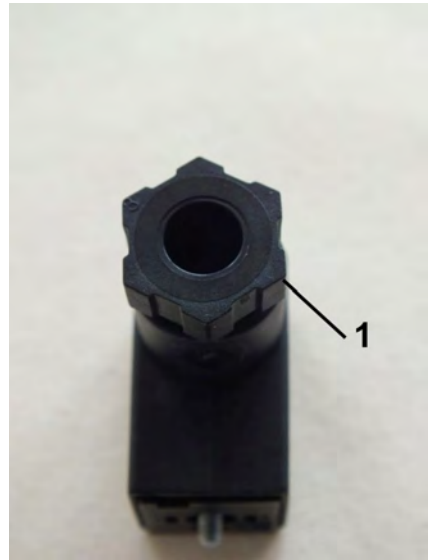

Fig. 23: Loosen the screw connection
4. ➤ Loosen the screw connection (Fig. 23/1) by turning it to the left
8. ➤ Retighten the screw connection (Fig. 23/1) by turning it to the right until tight